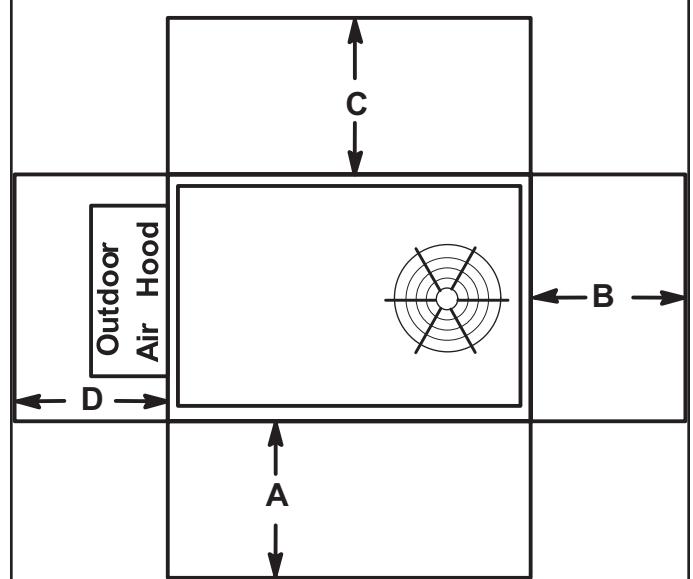

FIGURE 1
See FIGURE 1 for unit clearances.
The LDT unit is ETL/CSA certified for outdoor installations only at the clearances to combustible materials listed on unit nameplate and in FIGURE 1.
The LHT unit is ETL/CSA certified as a heat pump with cooling and with or without auxiliary electric heat for outdoor installations only at the clearances to combustible materials as listed on the unit nameplate and in FIGURE 1.
- 2 - Specified installation clearances must be maintained when installing units. Refer to FIGURE 1.